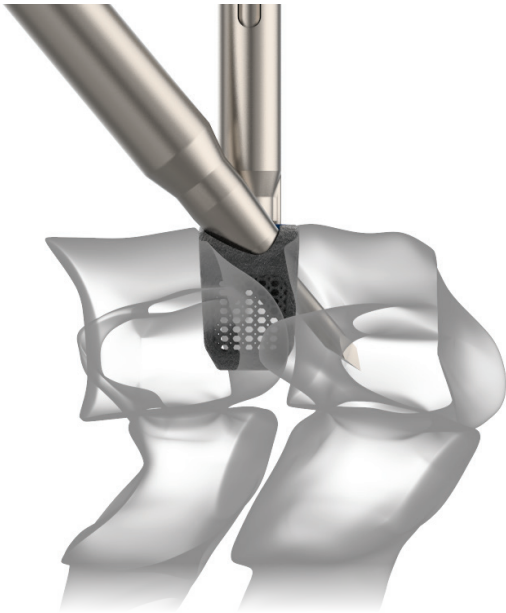

Figure 14
- Use either self-guided straight or polyaxial instrumentation or the fixed angle driver with either an awl or drill tip to penetrate the cortex through the interbody pocket (Figure 14).